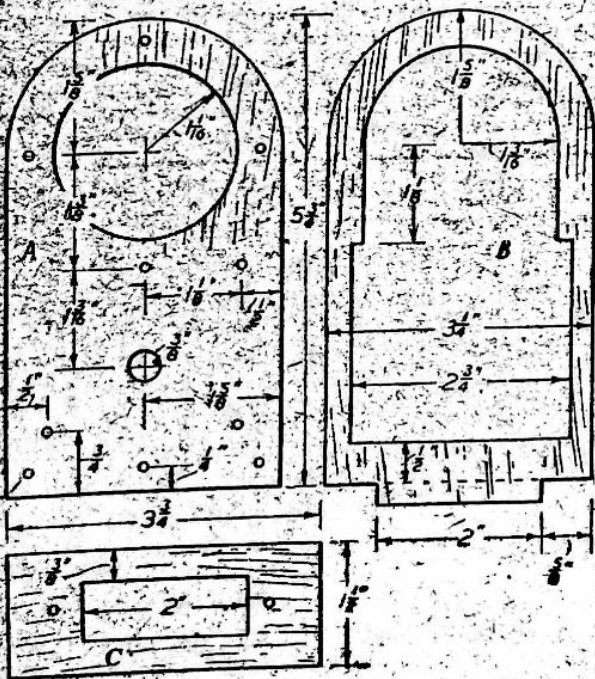

Fig. 1.—Size and shape of front panel, body and base.
The front panel (A) shown at Fig. 1 is cut from 1/4 in. thick plywood or fretwood. Before cutting the aperture into which the ear-phone piece fits, the casing of the phone unit should be measured to find its exact diameter. Therefore, try and pick up an odd, second-hand 'phone unit, particularly a unit having lead terminals on its back. If an all-bakelite unit is used, it will be necessary to cut a small notch in the edge of the aperture to allow for the leads protruding from one side of the casing.